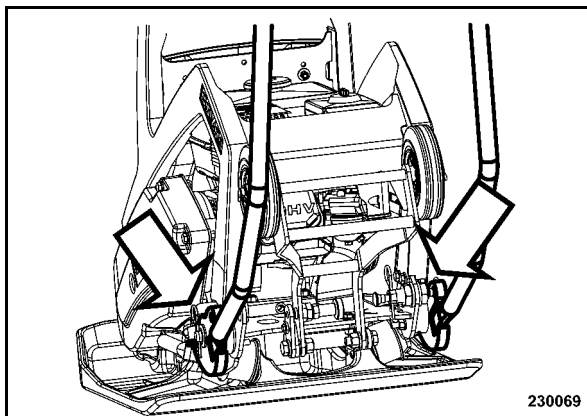

Fig. 16
- Force the steering bow (Fig. 16) apart and plug it onto the bracket.